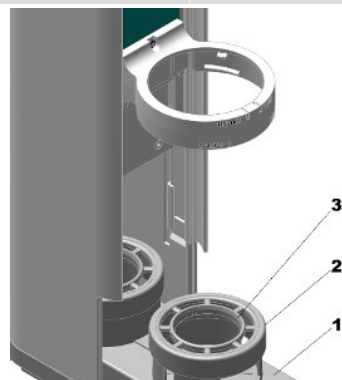

Figure 16: Insert beaker adapter
2. Insert the beaker adapter (number 3 in Figure 16) from above into the slide: